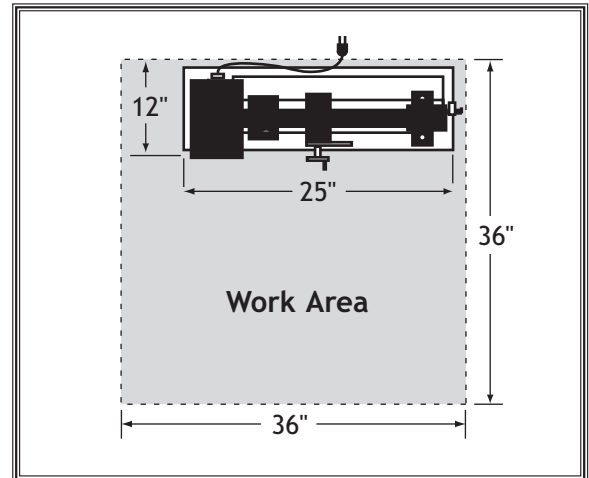

Figure 2. Minimum safe working clearances.
- **Working Clearances:** Consider existing and anticipated needs, size of material to be processed through the machine, and space for auxiliary stands, work tables or other machinery when establishing a location for your 6" x 10" Mini-Lathe (see Figure 2).
2. Position the lathe where you want it, keeping in mind the clearances suggested in **Figure 2**.